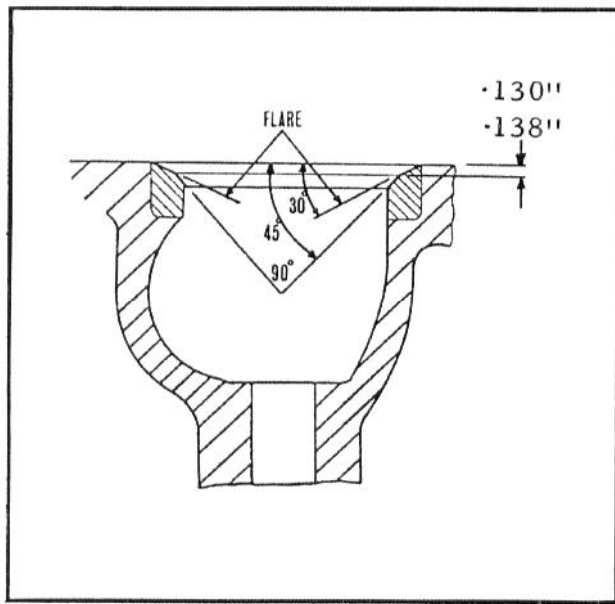

Fig. 7 - Machining Dimensions for Flare
6. Using the valve guide bore as a pilot, machine the "flare" to the dimensions shown in Fig. 7.